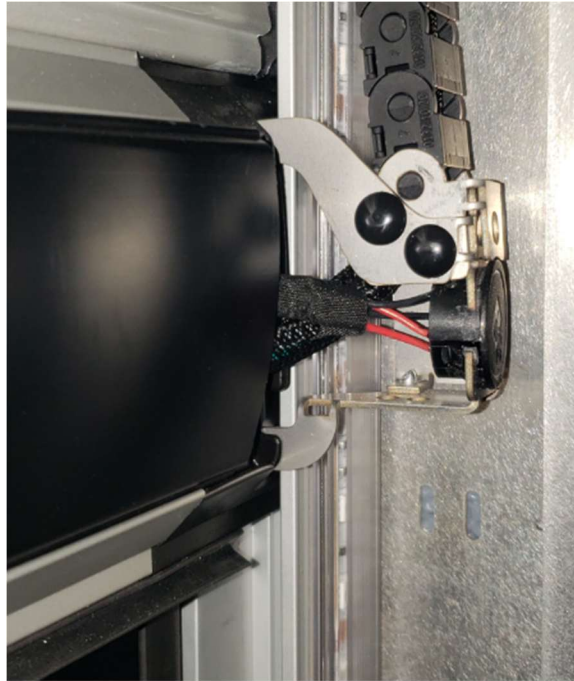

Figure 39 - Installing the cover plate
9. Snap the protective cover plate into place on the back of the handlebar, covering the handlebar cabling as shown in Figure 39.